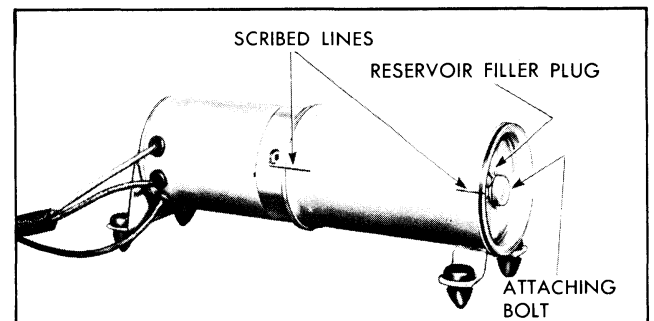

Fig. 22-60 Hydro-Lectric Assembly
2. Scribe a line across pump end plate, reservoir tube and reservoir tube end plate to insure correct assembly of parts (Fig. 22-60).